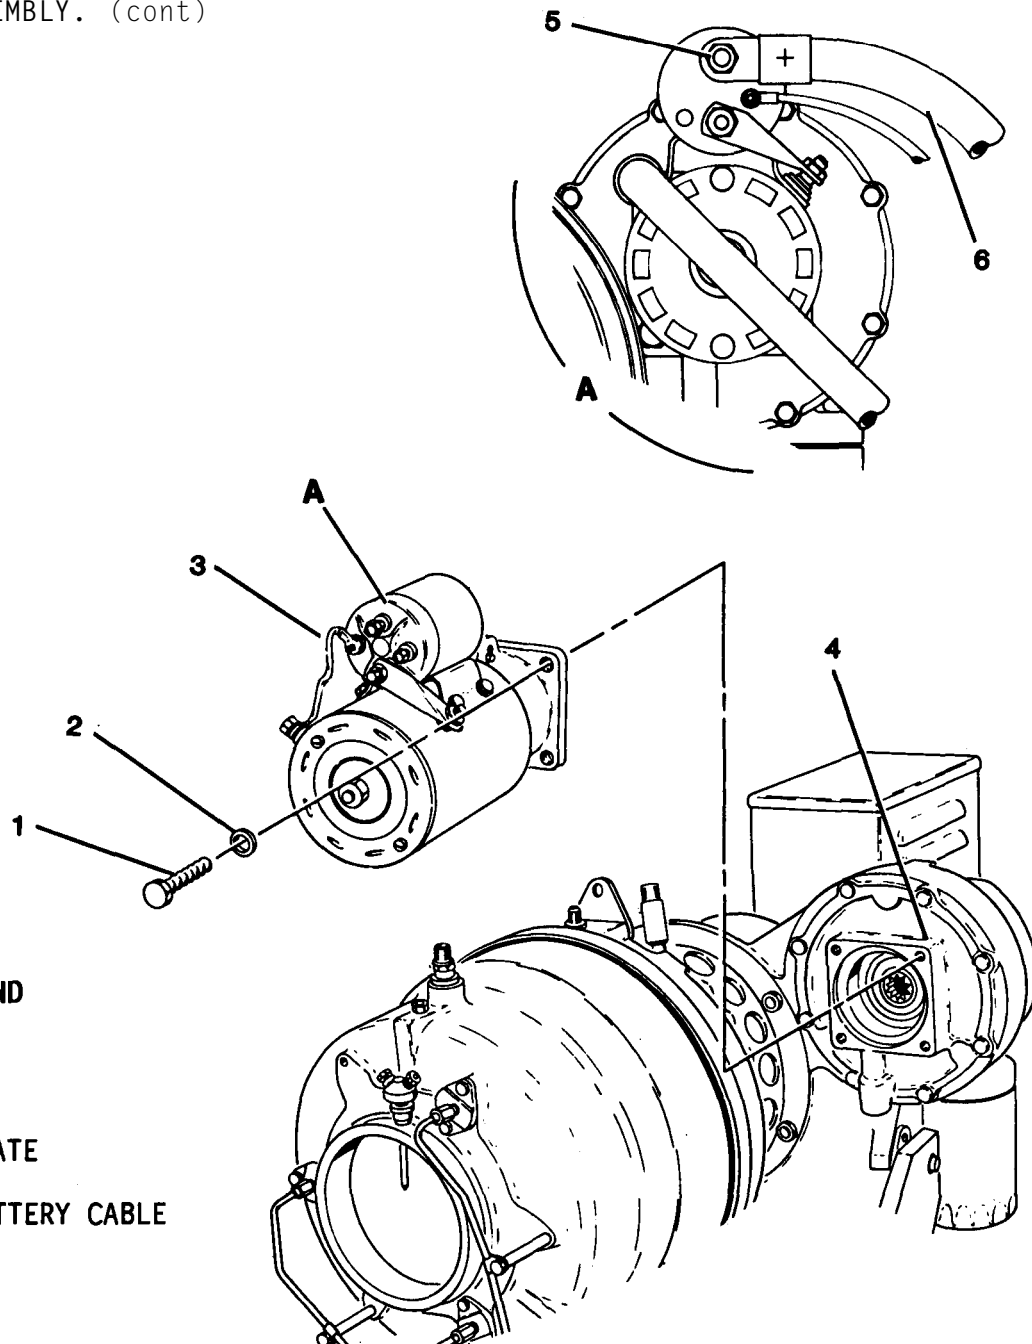

Figure 4-20. Starter Replacement
(4) Support starter. Remove lockwire, bolts (1, figure 4-20), and washers (2) that secure starter (3) to starter mounting plate (4).
(5) Carefully pull starter straight out of gearbox.